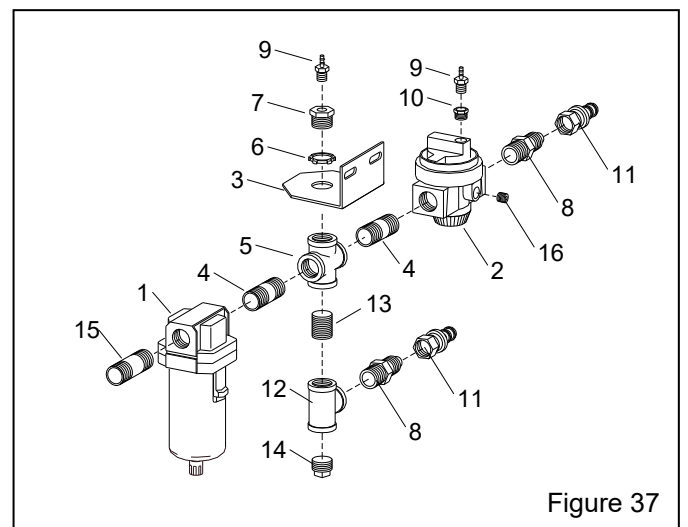

Figure 37
9.4 Filter-Regulator Inlet Piping Assembly Figure 37